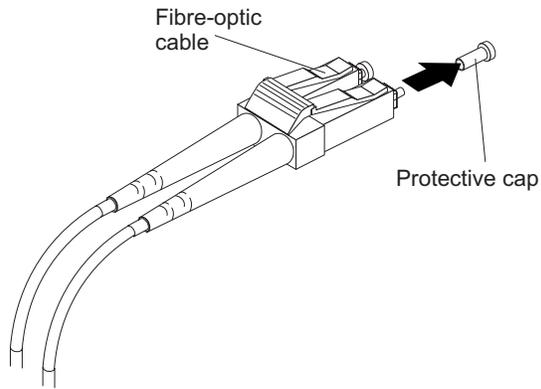

Figure 30. Removing fiber-optic cable protective caps
3. Remove the two protective caps from one end of the LC-LC cable, as shown in Figure 30 on page 50. Save the protective caps for future use.